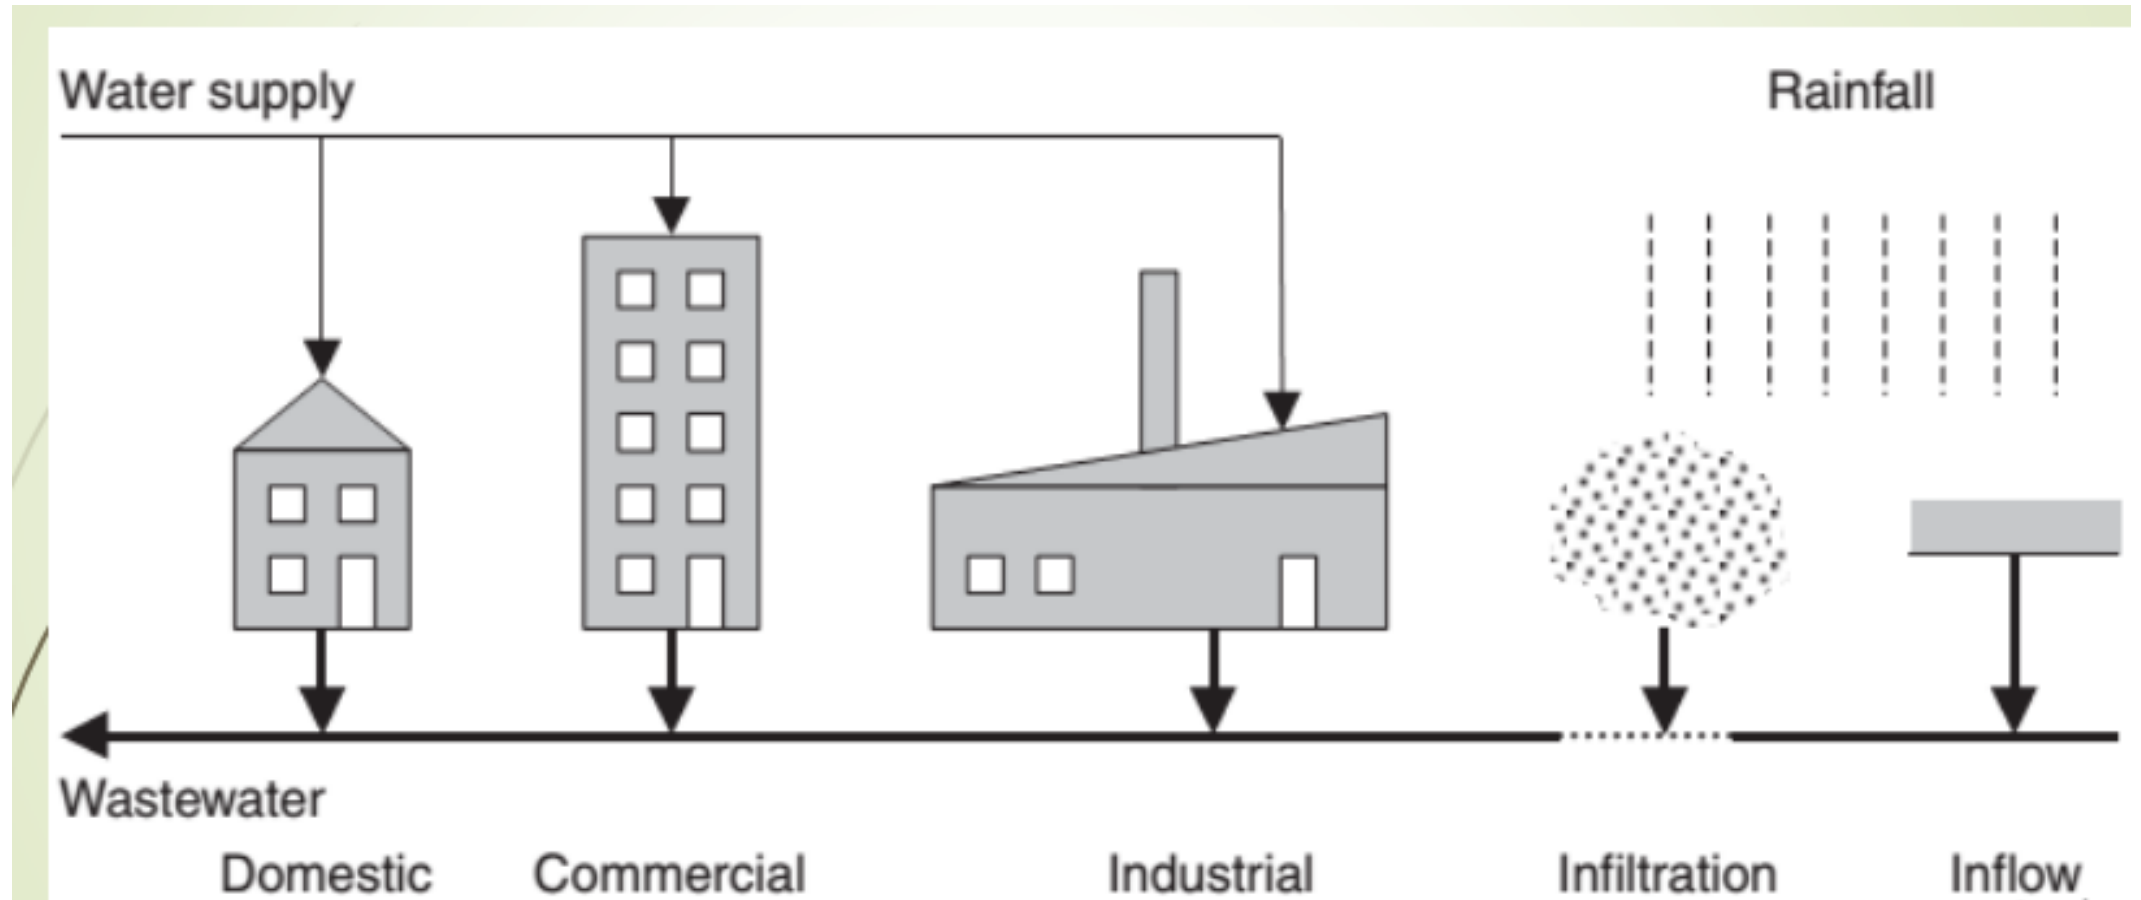

Fig. 5.1 Sources of wastewater
- The basic sources of wastewater are summarized in Fig. 5.1 and consist of: